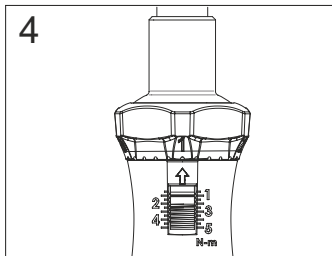

Рисунок 4 / Figure 4
In order to fix the selected torque value, move the fixing nut (2) to the "closed" position. The dynamometric handle (4) is ready for operation (Figure 4).